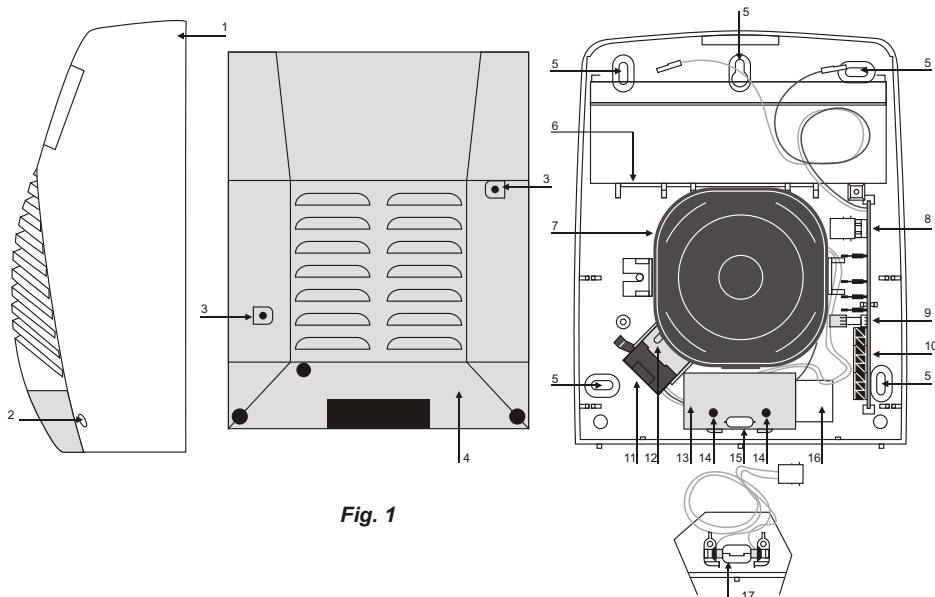

Fig. 1
- Pull the wires through the cable entry (16).
- WARNING:** Do not over tighten the snatch bracket screw (12) as this may damage the bracket wings (see figure 1 ).
- Complete the connections on the terminal board (10) as per the instruction in the relevant paragraph.
- Mount the battery on its support (6) and complete the battery connections (see figure 1).